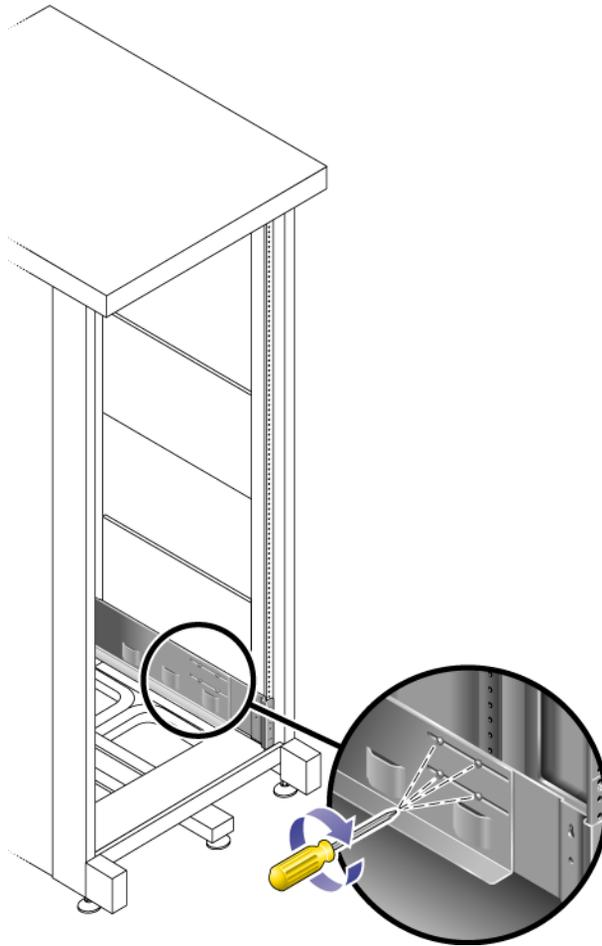

FIGURE 2-6 Tightening the Rail Adjustment Screws
8. Using the #2 Phillips screwdriver, tighten the eight adjustment screws (four on each side) toward the back of each rail (FIGURE 2-6).